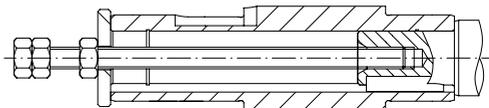

Figure 6: Installation of shaft-mounted gearbox
- Proceed as shown in Figure 6 for installation.